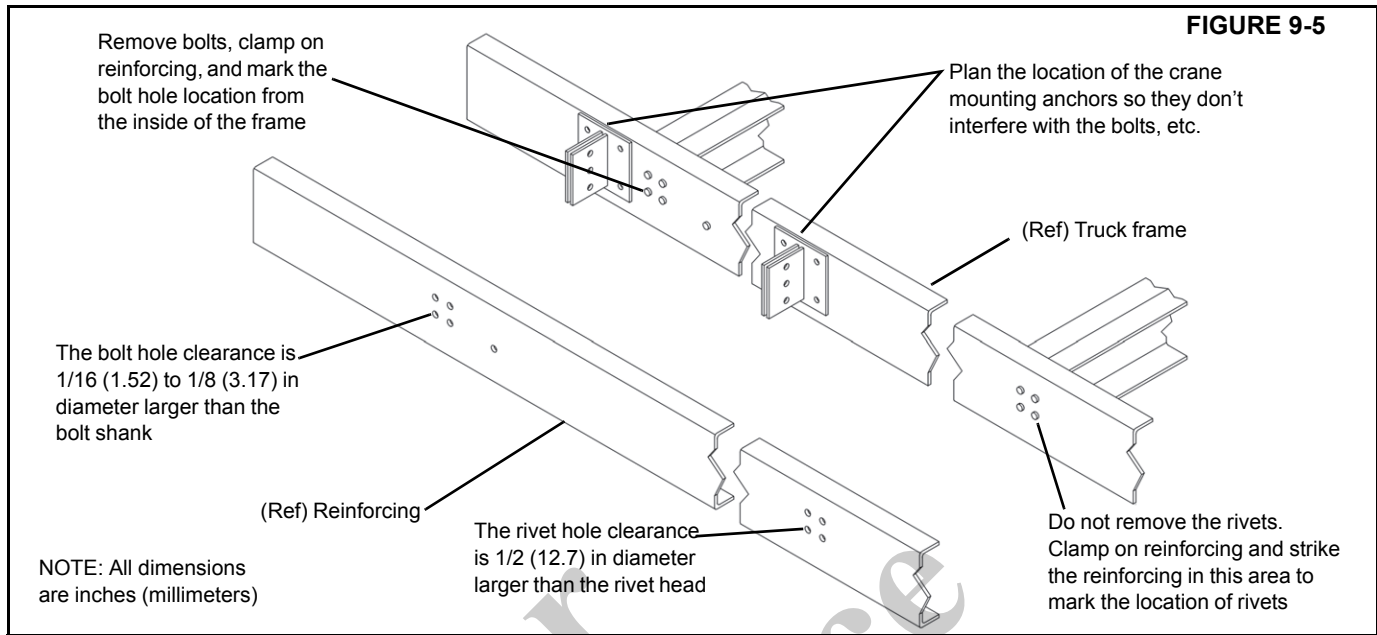

FIGURE 9-5
3. Place the reinforcing on the truck frame and clamp in place. Mark the location of rivets by striking the outside of the reinforcing over the rivet area so that the rivets make an impression on the inside of the reinforcing. Mark the approximate location of the crane mounting anchors so that no obstructions exist. Remove the reinforcing and cut clearance holes for the rivets (Figure 9-5).